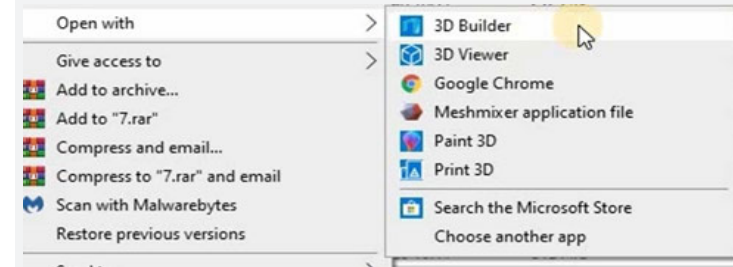

Figure 8
- Find the faulty model file's location on your PC and open it with '3D Builder' (Figure 8).